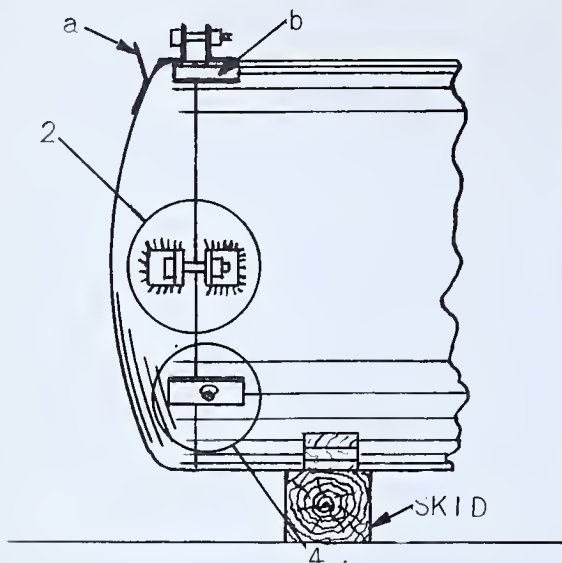
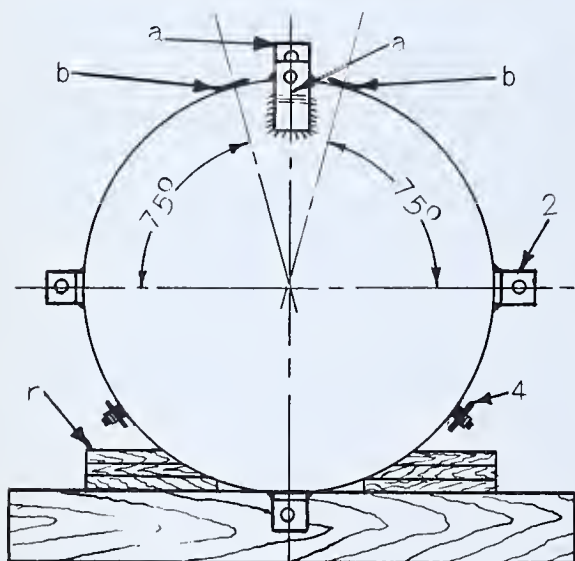

FIG. 378 — *Fitting the Dished Head with the Shell in a Horizontal Position*
FIG. 379 — *End View of Tank*
Care must be taken to secure the radius blocks *r* (shown in Fig. 379) under the cylindrical shell, properly, to keep the work from rolling. This type of shell weighs from 15 tons to 35 tons, and serious injuries can be caused by careless blocking.
such tanks have tubes and other fabricated units installed inside, it is not possible to fit the dished head as described in Job Sheet No. 13. In preparing this sort of unit for welding the girth seam between the dished head and the end of the shell, the dished head is fitted while the shell is lying in a horizontal position as shown in Fig. 378. An angle strap is welded to the dished head as shown in Fig. 378 at *a*. This strap has a hole in which to insert the crane hook for lifting the head. Two flat straps shown at *b*, Fig. 378, are welded about 30° apart on the circumference of the dished head as shown at *b* and *b* in Fig. 379. The straps *b* and *b* serve as guides when the head is swung into place. When the head is in place as shown, four or more angle clips are welded to the head and to the shell. See detail 2, Fig. 378. The end view of the tank, Fig. 379, shows detail 2 and detail 4.
1. Weld angle clip in place as shown in Fig. 378 at *a*.
2. Weld locating straps in position as shown in Fig. 379 at *b* and *b*.
5. Weld angle clips in place as shown in Fig. 379 at detail 2.
1. What is the purpose of the angle strap which is welded to the dished head in Fig. 378?